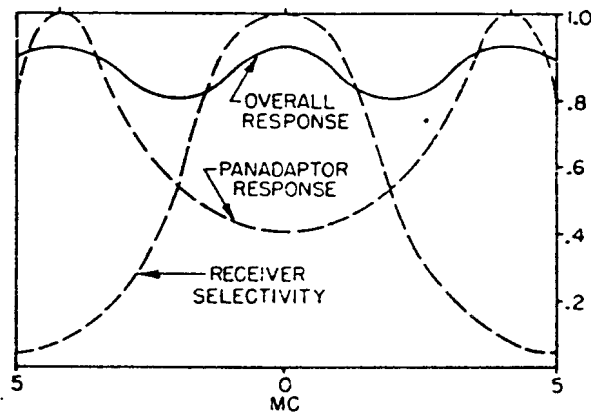

Figure IV-2. Overall Response of Panadaptor and Receiver.
- a. R-f Bandpass Amplifier, V2 (12AT7): The function of this stage is to compensate for the selectivity of the r-f amplifier and mixer stages of the receiver to enable presentation of a broad band of signals i.e. 100KC, 200 KC or 1000 KC. To do this it must provide greater gain in the outer portions of the displayed band. Compensation at most can only be partial since receiver selectivity will vary throughout the tuning range of the receiver. At the high end of the range there may be over-compensation. At the low end compensation may be insufficient, thus limiting the observable bandwidth. At some receiver frequency the compensation will be optimum. This is illustrated in Figure IV-2.